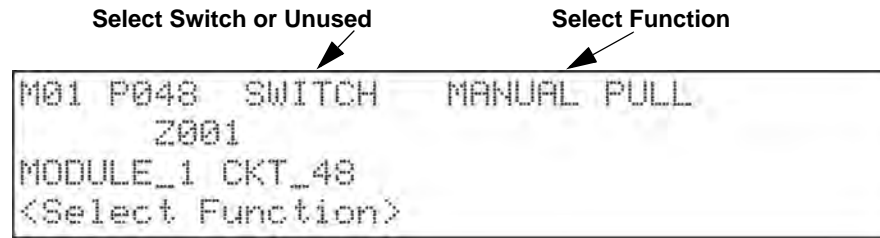

Figure 9.5 Programming Points as Inputs for the TR-5880 Module
10. To use TR-5880 as Input point, Enter point number 41 - 48. (See Figure 9.5). Then press ENTER.